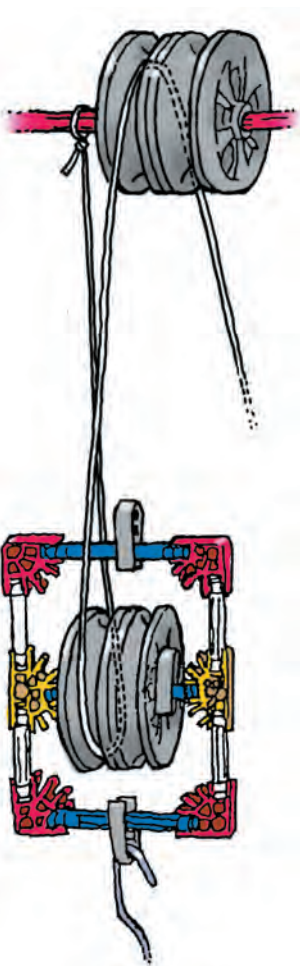

Figure 12.5 Single fixed, single movable pulley setup
- 7.** Set up the remaining three pulley systems one at a time as shown in Figures 12.5, 12.6, and 12.7. For each setup, measure the effort force and the effort distance needed to raise the movable-pulley-and-sled combination 0.10 m. Add these data to Table 1 on Student Sheet 12.1.